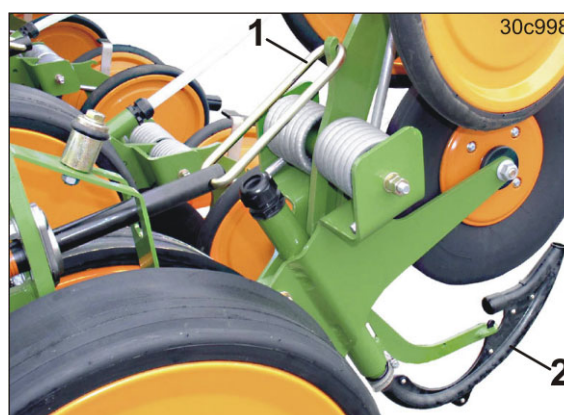

Fig. 257
4. Fold up the press rollers and hook onto the clamp (Fig. 257/1).
5. Clear the blockage in the shoot pipe (Fig. 257/2), remove the shoot pipe to clean it if necessary.